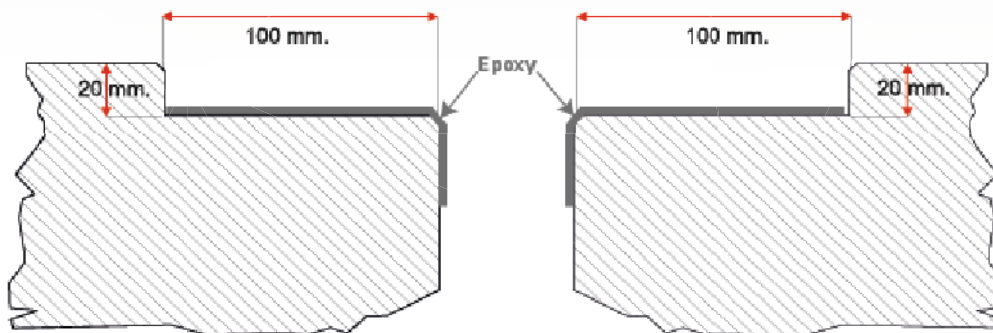
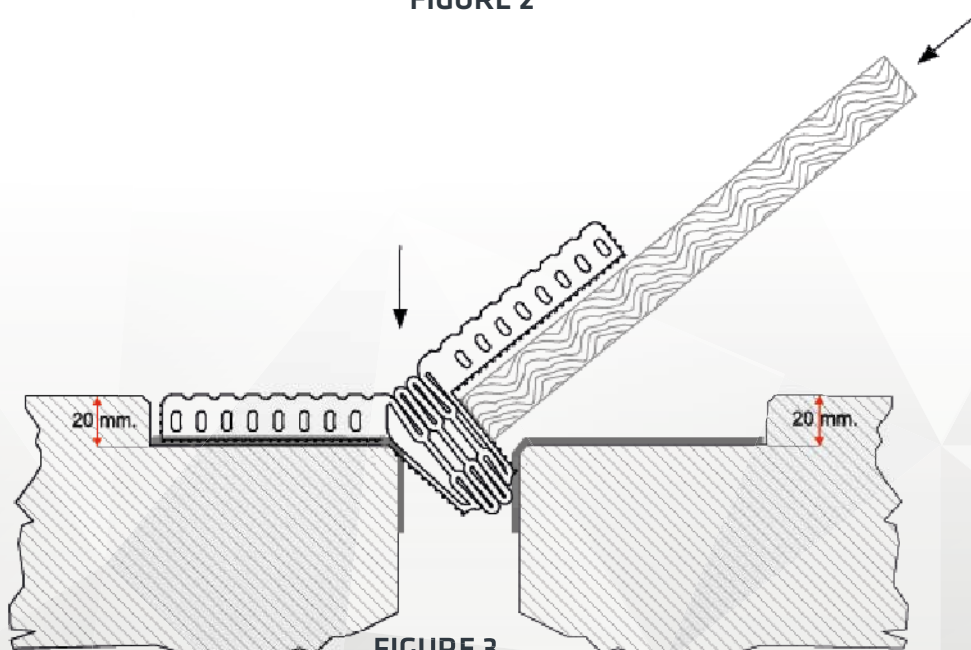

FIGURE 2
FIGURE 3
2. Place each length of seal upside-down next to the blockout area where it is to be installed. This will allow the seal some time to flatten before it is bonded in place. Check to ensure that the concrete blockouts are free from loose dirt, debris and oils. It is critical that the blockouts are clean to allow the Epoxy to achieve the proper bond. Apply the Epoxy and spread using a trowel until it is approximately 1.6mm - 3.2mm thick and approximately 38mm down the vertical face of the joint (see Figure 2). The Epoxy must be applied quickly to allow time for the seal to be installed before it begins to gel. Once the Epoxy has begun to gel or get hot, a proper bond will not be achieved. Place the first section of seal into the blockout area (see Figure 3). Ensure that the seal is in the correct position along the length of the joint.